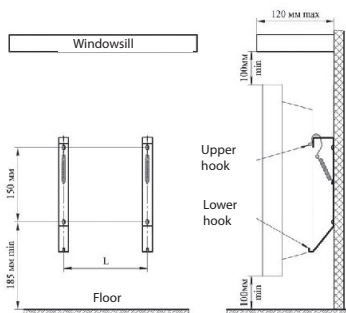

Fig. 1
5.4 For stationary installation of the convector, mark the mounting holes on the wall, referring to Figure 1 and Table 2. Fix the brackets for installing the convector in any way possible, ensuring their reliable fastening during the entire life of the convector.
Turning on and operating the convector is allowed only in the position indicated in Fig. 1 (intake grid down). When you turn on the convector for the first time, the smell of evaporation of preservation materials is possible. It is recommended to ventilate the room.